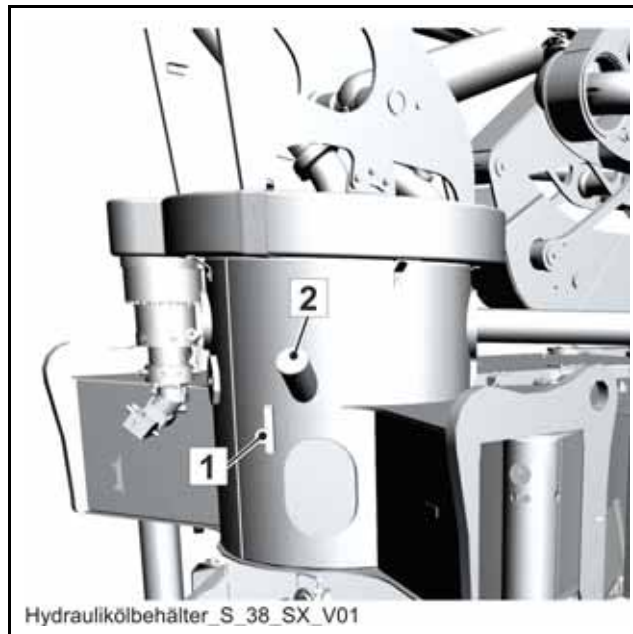

Abb. 296
The reservoir for the hydraulic oil is equipped with an oil level indicator (1) (**Abb. 296**).
Caption (Abb. 296)
When the oil is cold, the oil level must be shown in the middle of the oil level indicator (**Abb. 296**) .
If necessary, top up the hydraulic oil via the filler cap (2) (**Abb. 296**).